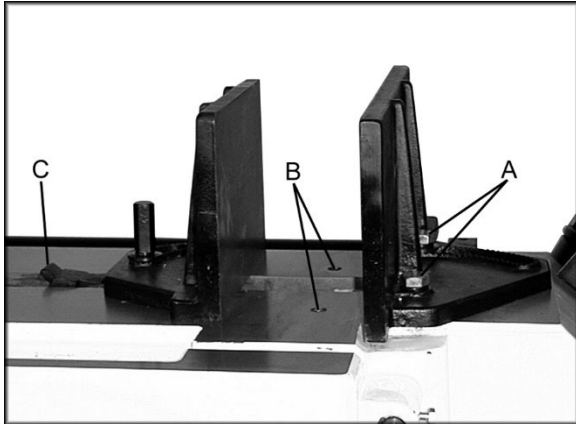

Figure 5
11.1 Adjusting vise square to blade (Position A, Figure 5)
2. If adjustment is necessary, loosen bolts (A, Figure 5) holding the vise and adjust vise so square lines up properly. Tighten bolts.
(Position B, Figure 5)
1. Move the vise into the second set of threaded holes (B, Figure 5) by removing hex cap bolts (A, Figure 5).
1. Pull up on the rack block (C, Figure 5).